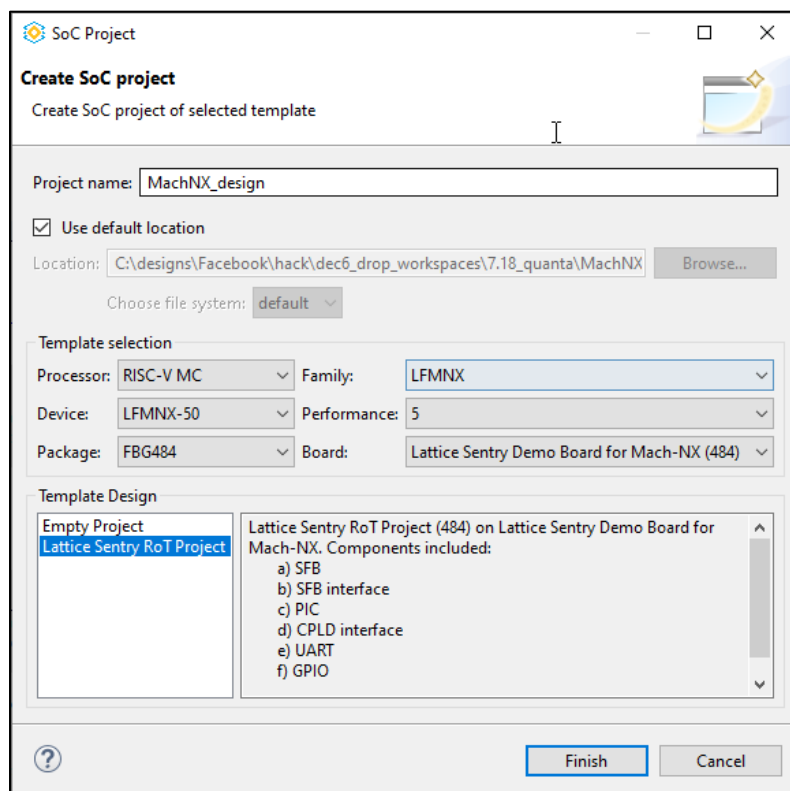

Figure 3.3. Create SoC Project Page
5. The **Soc Project** wizard opens, as shown in Figure 3.3.